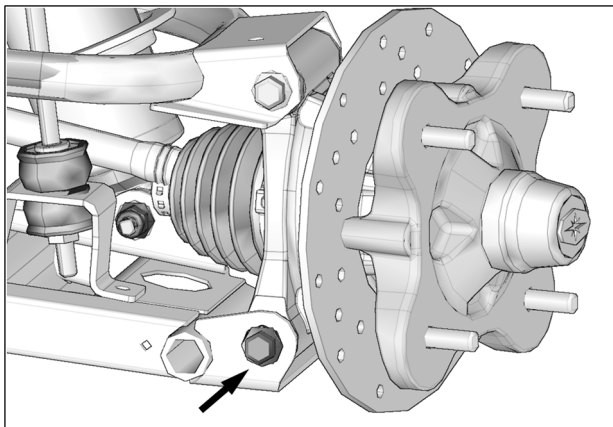

Fig. 6
5. Remove bolt securing the lower suspension arm to the wheel hub. A new M10-1.5x200mm bolt provided in the installation kit will be used to secure together the anti-rotation anchor bracket, the lower suspension arm and the wheel hub. See Fig. 6